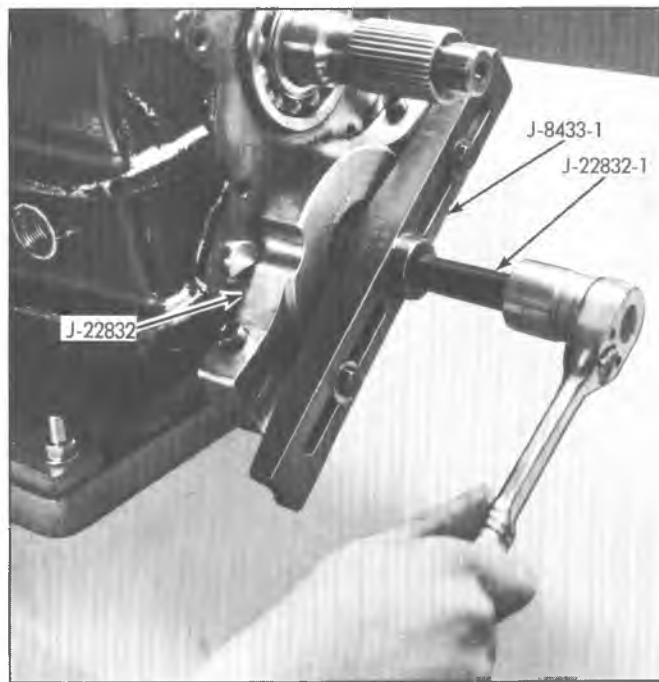

Fig. 3Q--Removing Countergear Rear Bearing
9. Remove countergear rear bearing retaining rings (snap ring) from shaft and bearing. Using Tool J-22832 and J-8433-1, remove countergear rear bearings (fig. 3Q). This will allow countergear assembly to rest on bottom of case.